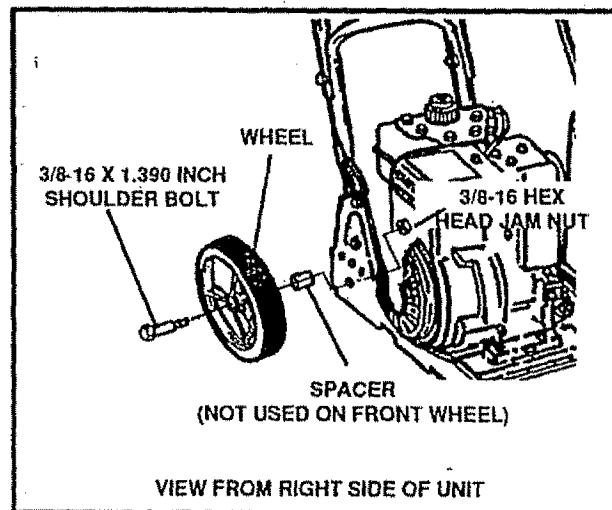

FIG. 2
- Attach each rear wheel, as shown, to the edger (See Fig. 2) with a 3/8-16 x 1.390 inch shoulder bolt, spacer and 3/8-16 hex head jam nut (found in parts bag).